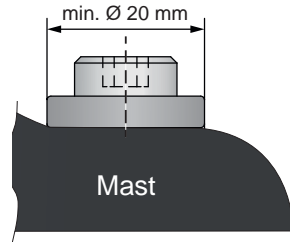

Figure 3.4: washer
- The bolt contact surface (between bolt and mast) must be at least 20 mm in diameter. Levitaz recommends using washers to prevent wear. See figure 3.4.